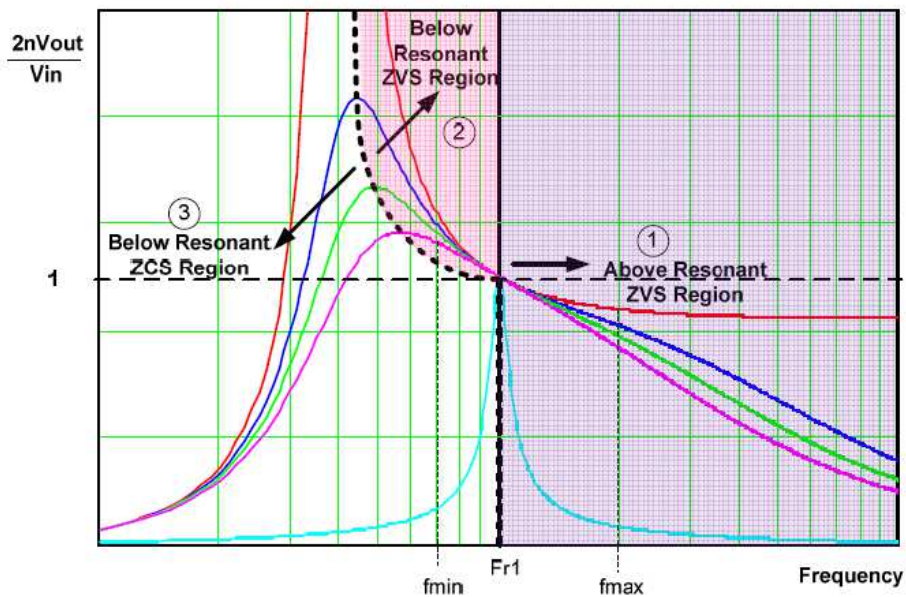

Figure 1 - Typical voltage conversion ratio of a LLC resonant converter
- **How does it compare to Figure 1?**